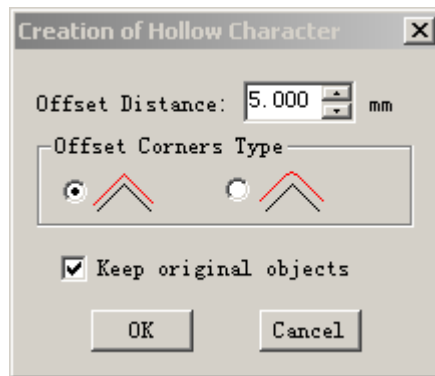

Fig. 7-21
4. A dialog is displayed. (Fig. 7-21)